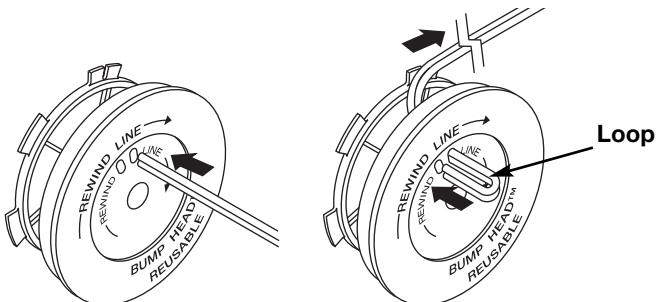

Fig. 21
8. Take approximately 8 feet (2.5 m) of new trimming line. Insert one end of the line through one of the two holes in the inner reel (Fig. 21). Pull the line through the inner reel until only about 4 inches is left out.
9. Insert the end of the line into the open hole in the inner reel and pull the line tight to make the loop as small as possible (Fig. 21).